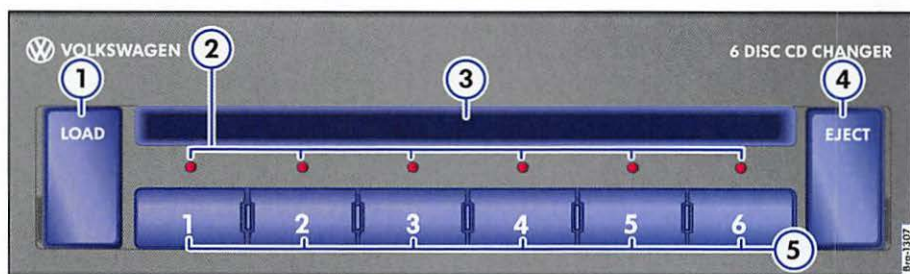

Fig. 36 External CD changer in the passenger side storage compartment or in the front center armrest.
- Press the **LOAD** button. The LED ⇒ fig. 36 ② above the next available CD slot flashes slowly.
- For manual selection of an available CD slot, press one of the device keys ① to ⑥. Otherwise, the next available slot is automatically provided.
- If the LED flashes rapidly, load an audio CD into the CD slot with the unprinted side facing towards the buttons ③, until the audio CD is automatically pulled in ⇒ ④.